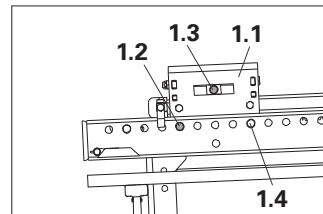

Fig. A2.06a
3. Install Mounting Ring (16)* on the bracket anchor (15B), see A2.8.
- Pull cotter pins out of Fitting Pins $\varnothing 26$ (1.2 + 1.3) and Fitting Pins from the Adjusting Unit (1.1). (Fig. A2.06a)
- One Fitting Pin (1.4) remains in the Adjusting Unit (1.1). (Fig. A2.06a)
2. If necessary, connect the platform unit with Tension Belts (12) and additional Following Anchor (15C) in the starter section, see A2.5.
4. Re-insert Fitting Pins $\varnothing 26$ (1.2 + 1.3) in the Adjusting Unit and secure with cotter pins. (Fig. A2.06a)